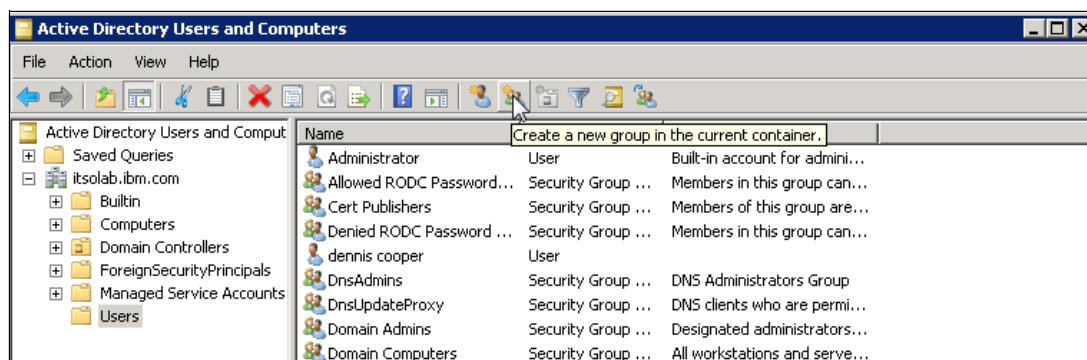

Figure 7-12 Active Directory Users and Computers window to create a new group
1. To create this group, log on to the AD Domain Controller and configure Active Directory. An easy way to configure Active Directory from the AD controller is to select **Start** → **Run**, type **dsa.msc**, and click **OK**. The Active Directory Users and Computers management console opens (Figure 7-12).